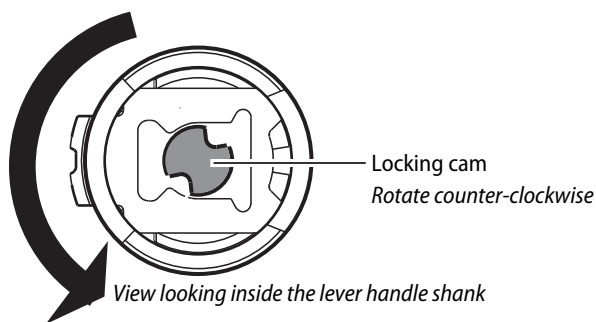

Figure 6 Rotating the locking cam counter-clockwise
- 1 Carefully turn the locking cam using a Philips-head screw driver counterclockwise **until it stops**. See Figure 6.